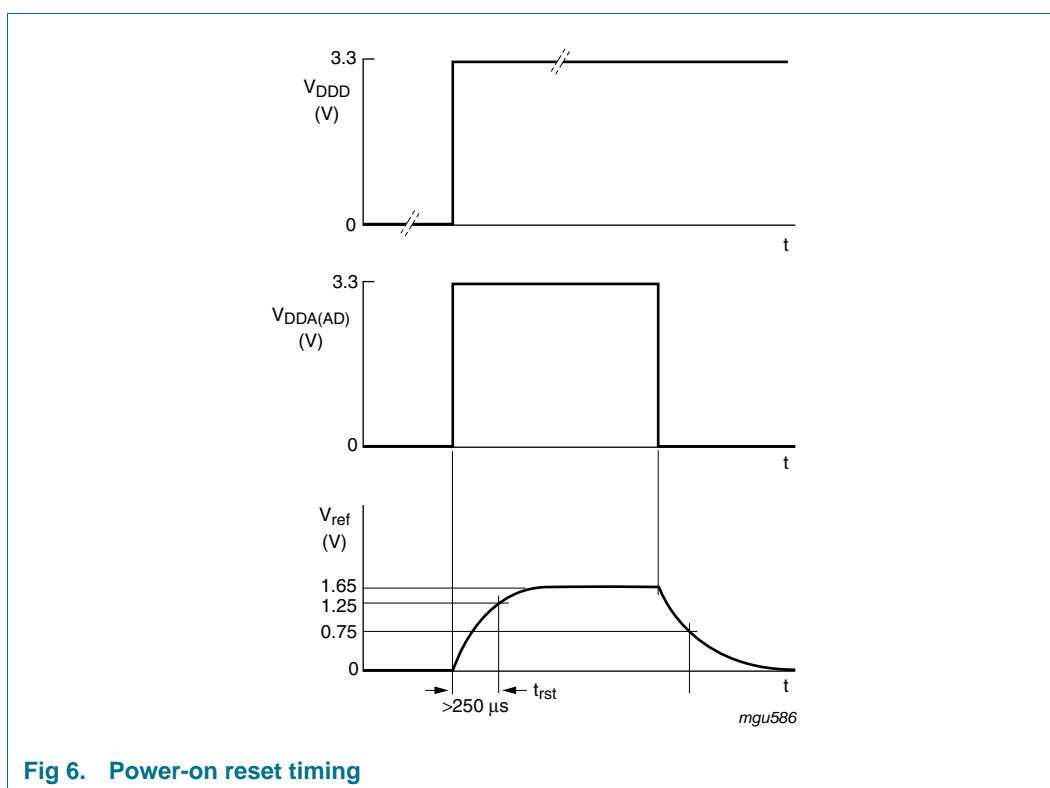

Fig 6. Power-on reset timing
The reset time (see Figure 6) is determined by an external capacitor which is connected between pin Vref and ground. The reset time should be at least 250 μs for Vref < 1.25 V. When VDDA(AD) is switched off, the device will be reset again for Vref < 0.75 V.